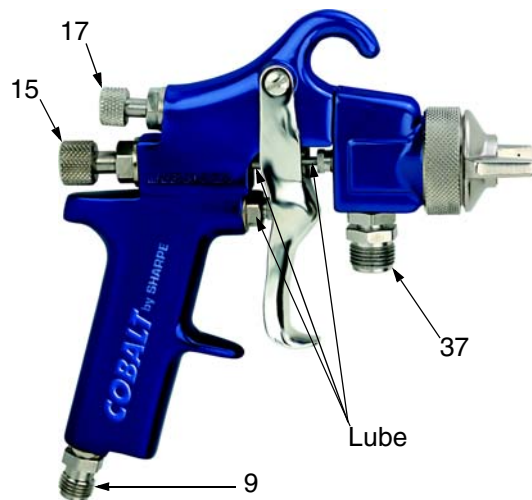

FIG. 1
2. Connect a clean, dry, filtered air supply to the gun air inlet (9). See FIG. 1, page 4.
1. Fill cup with material and connect to gun fluid inlet (37) or connect fluid supply hose if pressure feeding gun. See FIG. 1, page 4.
3. Adjust the pattern size and shape with the spray width adjustment knob (17). Turn knob clockwise to reduce pattern size and counterclockwise to increase it.